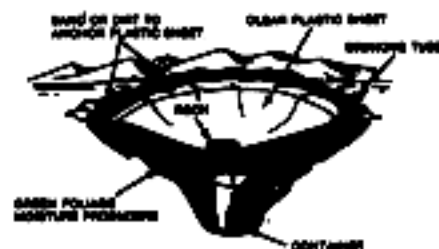

Figure 11-5. Survival water still.
a. Purification. Purify all water before drinking, either (1) by boiling for at least one minute, plus 1 minute for each additional 1,000 feet above sea level or boil for 10 minutes no matter where you are; (2) by using water purification tablets; or (3) by adding 8 drops of 2-1/2% solution of iodine to a quart (canteen full) of water and letting it stand for 10 minutes before drinking. Rain water collected directly in clean containers or on plants is generally safe to drink without purifying. Don't drink urine or sea water -- the salt content is too high. Old bluish sea ice can be used, but new, gray ice may be salty. Glacier ice is safe to melt and drink.
- (1) Units average water consumption rate.
- (2) Drop sites.
- (3) Aviation support.
- (4) DZ and LZ parties.
- (5) Caches.
- (6) Targets of opportunity (enemy).
c. Survival water still. For the below ground still (figure 11-5), you will need a digging tool.
(1) You should select a site where you believe the soil will contain moisture (such as a dry stream bed or a low spot where rainwater has collected), where the soil will be easy to dig, and where sunlight hits most of the day. Proceed as follows: